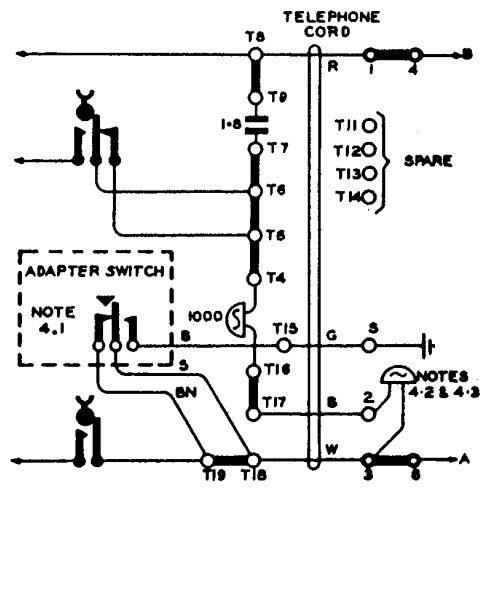

FIG 5
4.2 Extension Bell. Replace the 3-wire cord HC 543.... with a 4-wire cord KC 729.... and connect as shown in Fig. 5.